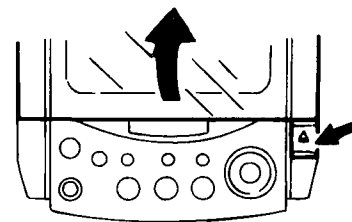

Fig. 4
2. After turning the body back to its initial position, open the CD door while pressing the upper [OPEN/CLOSE] button (See Fig. 4).